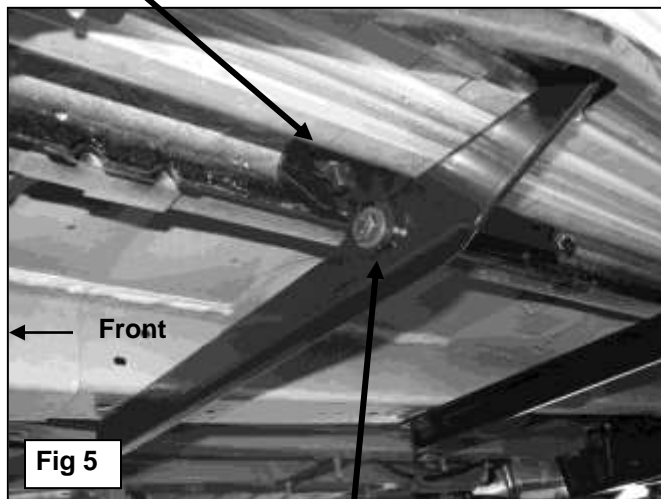

Fig 5
5. Bolt the Support Bracket on the Bracket assembly to the Bolt Plate, (over the Lock Plate), with (1) 10mm Flat Washer, (1) 10mm Lock Washer and (1) 10mm Hex Nut, **(Figure 5)**.